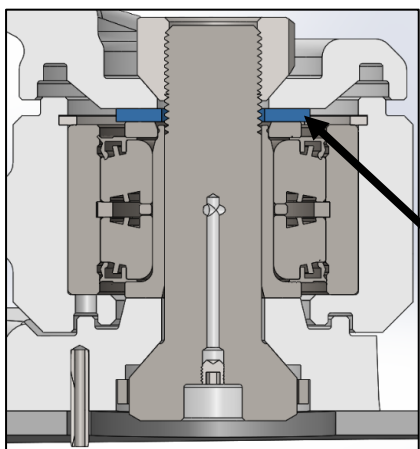

Figure 117
12. **On Model year 2019 and above** a stabilizer with a 1 3/16" hole is being used. The stabilizer has a washer under the stabilizer between the stabilizer arm and inner race of the bearing. This washer goes between the stabilizer and the top of the bearing with the convex side down. Figure 117.